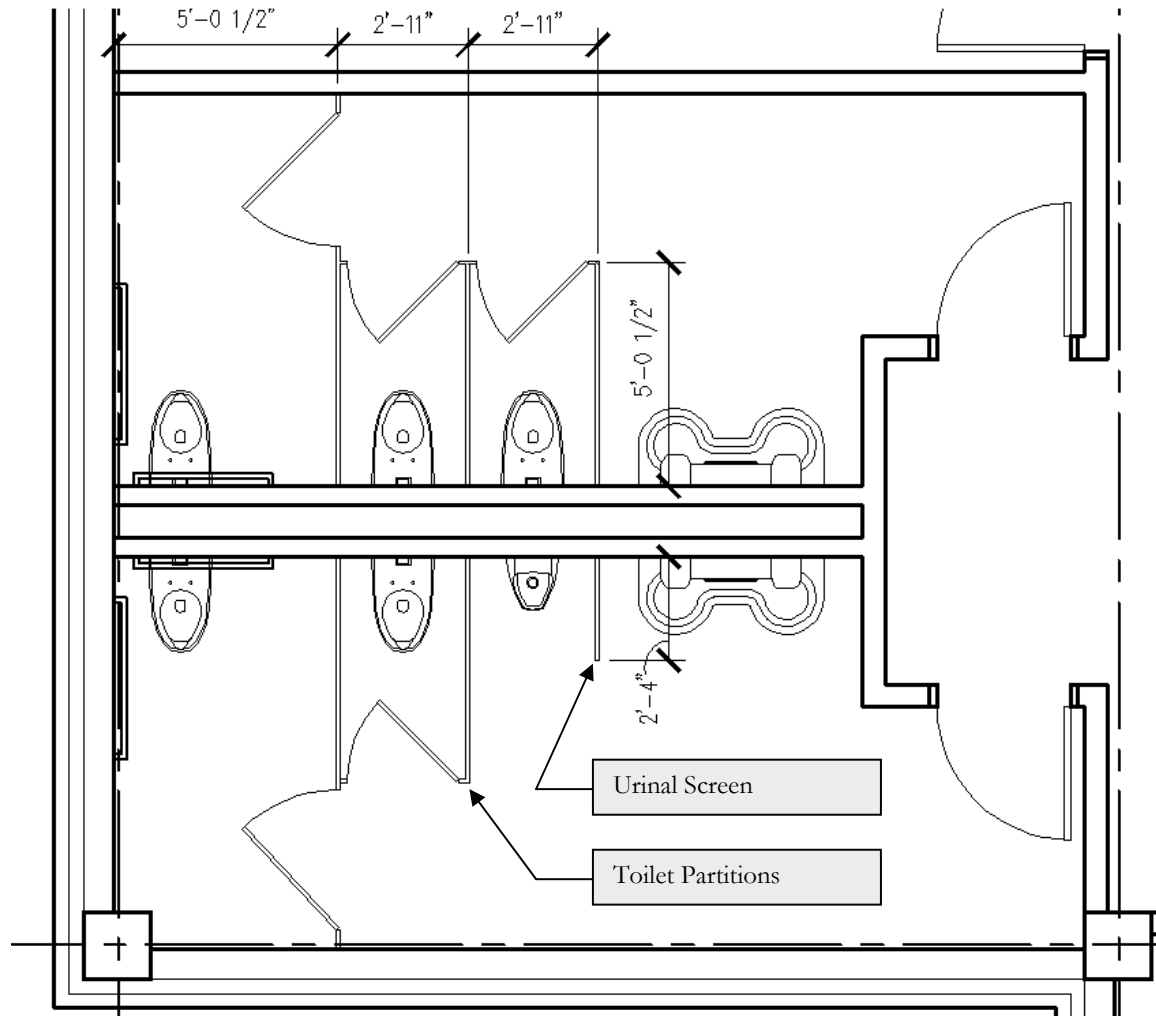

FIGURE 4-1.10 Drawing the toilet partitions and urinal screen
17. Draw the toilet partitions as shown in Figure 4-1.10, *plus*: